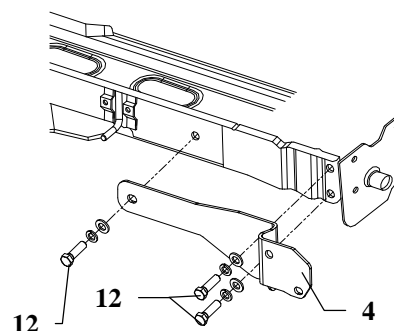

Fig. 2. Fitting of side fish-plates
4. Put bend fish-plates (pos. 4 and 5) to chassis as shown in the figure 2 and fix by holes A and B using bolts M12x40mm (pos. 12).
5. Between mounted fish-plates put main bar of the towing hitch (pos. 1) and fix it by holes C using bolts M10x35mm (pos. 13)